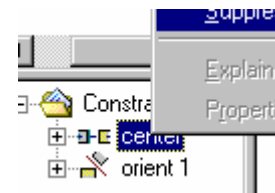

Figure 18. Suppressing Constraints.
35. The Center constraint applied to the cross piece may need to be suppressed so that another constraint can be applied. To do this, select Components in the browser, then highlight Back Cross Piece. See figure 18. Notice at the bottom of the browser a Constraint tree will be visible. Right click on any constraint and select Suppress. Now Right Click on any remaining constraints and select Suppress. This will suppress all constraints and allow you to apply another constraint.
36. Use Edge selection to select the two edges shown in figure 18.